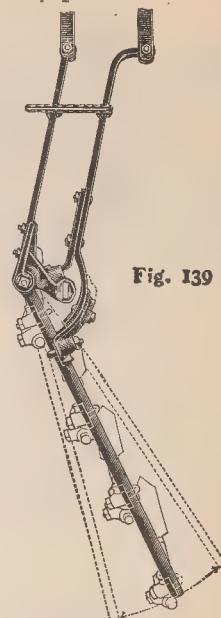

Fig. 139
**Pivoted Gang Bars.**—The gang bars are hinged or pivoted as shown in Fig. 139, and the cultivating width can thus be quickly changed by the simple loosening and tightening of two bolts. They are of round bars of steel, rolled with a groove that engages a rib on the tooth holder, while the eye-bolt firmly clamps the tooth-holder to the bar. This combination also gives the facility of changing the position of the teeth, and increasing or reducing the number.